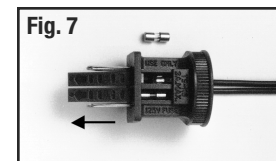

Fig. 7
2. Fuses are located in light string plug. Slide the fuse access cover away from cord side (in direction of arrow, Figure 7) exposing fuses.